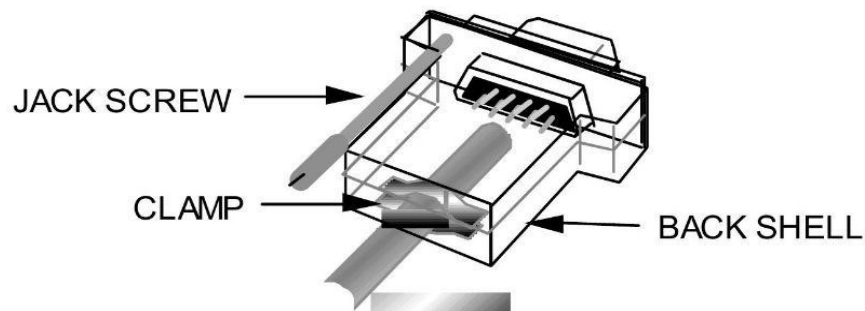

Figure 8
- Attach a backshell (two halves) to one of the D connectors as shown in Figure 8. Use the provided cable clamp to hold the cable in the proper position, then secure the clamp with two small screws. The two jackscrews must be retained in position by the shells when the two halves are joined. Secure the backshell halves with the provided hardware. Once this is completed, attach a backshell to the other D connector.